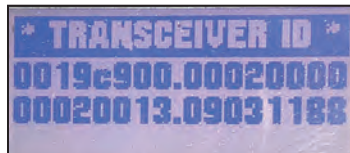

Figure 17. The Transceiver ID shown on the first LCD scrolling screen.
- **Method 2:** Rotate the MODE-SELECTOR lever to initiate the *Display* screens after the TripSaver II recloser is powered up. The LCD screen will begin to scroll. The first screen displayed contains the Transceiver ID. See Figure 17.